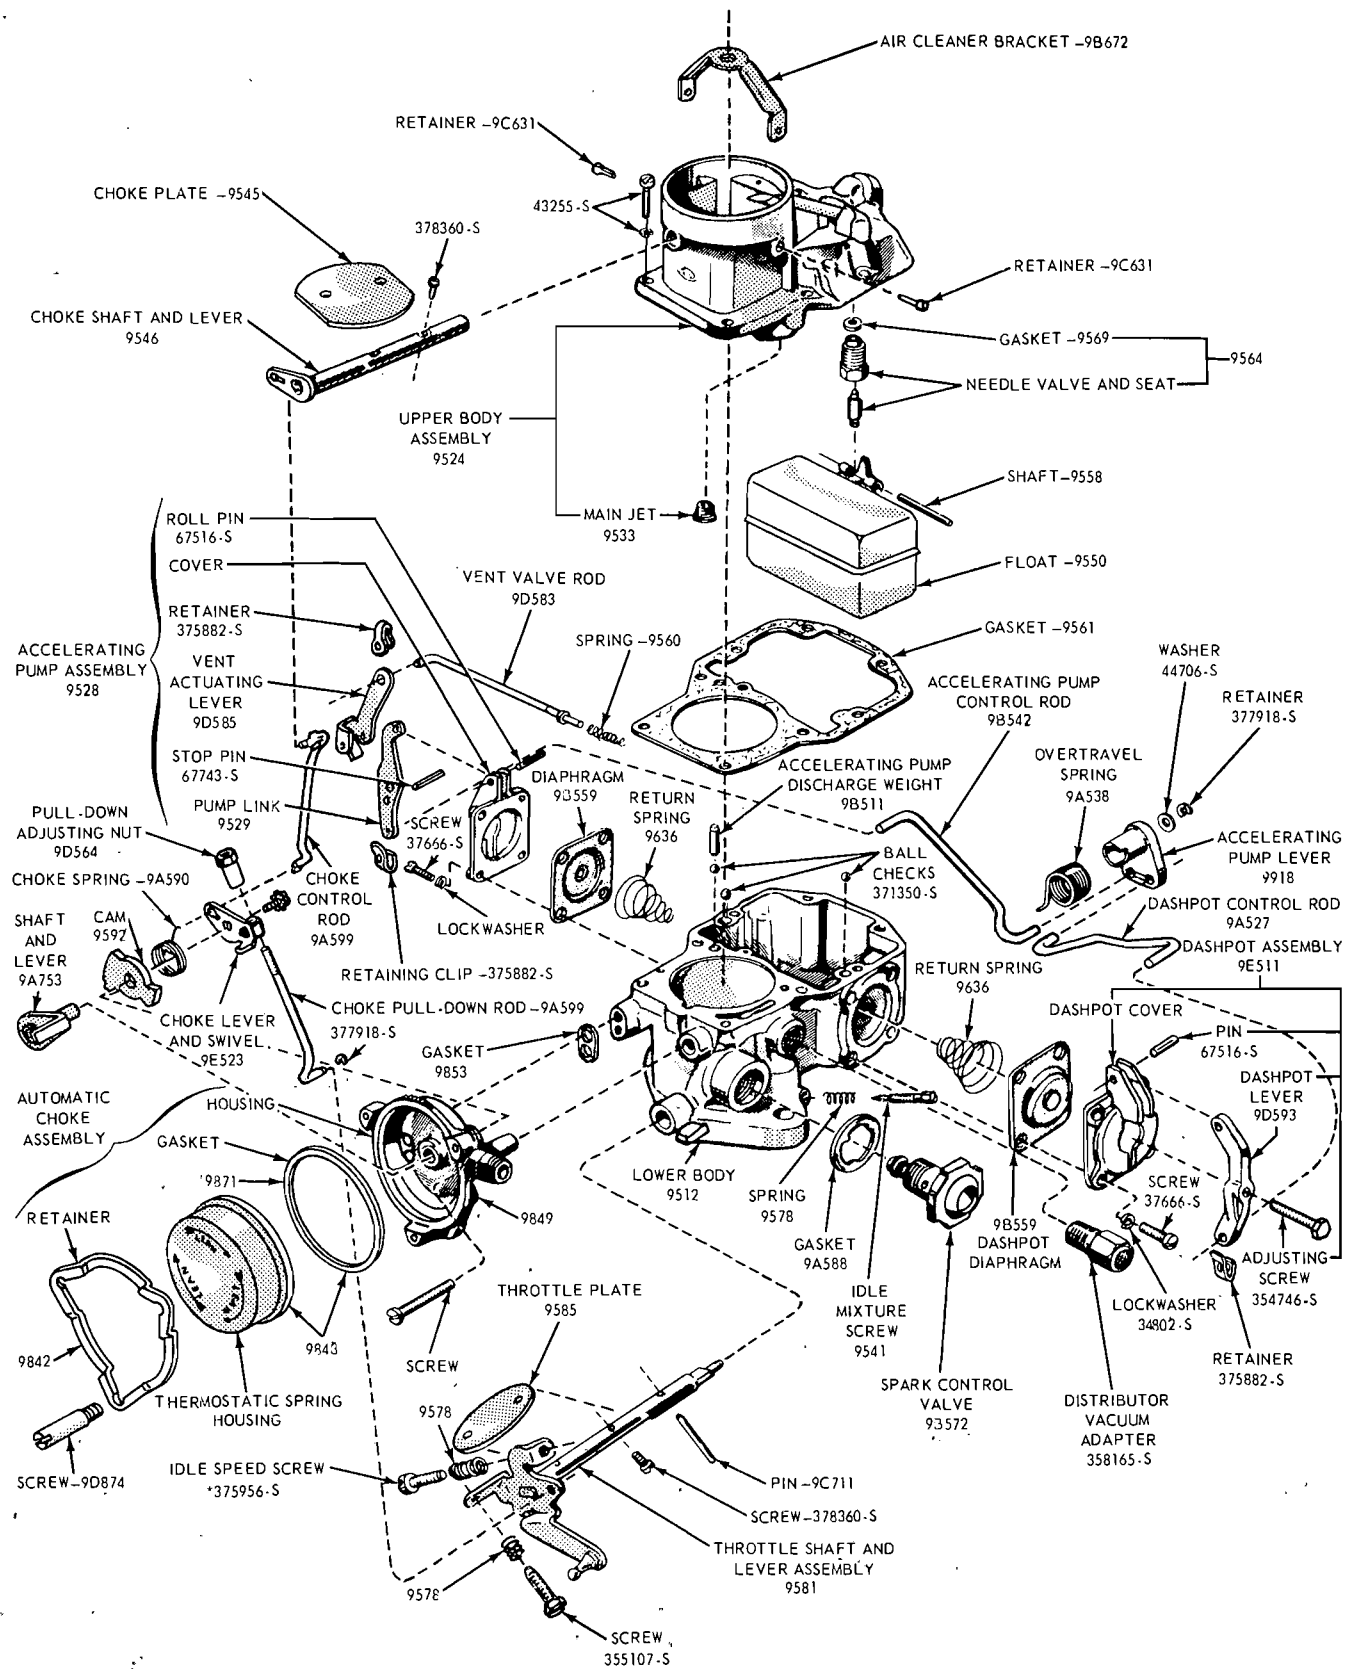

FIG. 12—Autolite Model 1100 1-V Carburetor Assembly
1. Remove the choke pull-down rod to throttle lever retainer (Fig. 12). Remove the rod from the lever.
1. Depress the tang on the fuel bowl vent rod to accelerating pump actuating lever retainer (Fig. 12), and disconnect the vent rod from the lever. Remove the fuel bowl vent rod to accelerating pump actuating lever retainer (Fig. 12).
2. Remove the upper to lower body retaining screws and the carburetor identification tag. Separate the upper body assembly, gasket and lower body assembly (Fig. 12). Discard the gasket.
1. Remove the float retaining pin and the float assembly (Fig. 12).
1. Depress the tab on the accelerating pump lever to control rod retaining clip and slide the rod out of the lever (Fig. 12). Remove the clip from the lever.
A disassembled view of the carburetor is shown in Fig. 12.
1. Insert the fuel vent valve return spring in the fuel vent passage in the upper body (Fig. 12). Insert the piston end of the fuel vent rod in the passage.
1. If the choke plate and the shaft were removed, insert the choke shaft assembly into the air horn with the lever pointing toward the accelerating pump side of the carburetor (Fig. 12).
1. If the throttle plate and shaft were removed, slide the throttle shaft into the lower body, with the lever on the throttle shaft located opposite the fuel bowl and the fast idle adjusting screw facing upward (Fig. 12).
4. If the carburetor is equipped with a dashpot (Fig. 12), proceed with the following steps:
5. Position the overtravel spring (Fig. 12) on the accelerating pump lever and hook the tang of the spring on the lever. Position the accelerating pump lever and spring on the throttle shaft and insert the accelerating pump actuating rod and dashpot actuating rod, if so equipped, into the two holes in the lever.
7. Position the accelerating pump actuating rod retaining clip over the hole in the accelerating lever, with the tab side of the clip toward the carburetor barrel (Fig. 12). Depress the tab and insert the shorter end of the rod through the lever and clip.
8. If the carburetor is equipped with a dashpot, position the dashpot actuating rod retaining clip over the hole in the dashpot lever, with the tab side of the clip facing toward the carburetor barrel (Fig. 12). Depress the tab and insert the shorter end of the rod through the lever and clip, then release the tab when the rod is inserted. Perform an Anti-Stall Dashpot Adjustment (Part 10-1, Section 2); after the carburetor is assembled.
9. Position the new spark valve gasket over the spark valve and screw the valve into the lower body (Fig. 12). Tighten the valve securely. **A loose valve will cause poor engine operation.**
10. Install the idle mixture adjusting screw and spring in the lower body (Fig. 12). Perform the Preliminary Idle Mixture Setting (Part 10-1, Section 2) after the carburetor is assembled.
1. Place the ball check and the accelerating pump weight into the lower body accelerating pump outlet passage (Fig. 12). Insert a ball check in the accelerating pump inlet passage.
2. If the carburetor is equipped with a dashpot, insert a ball check in the dashpot inlet passage (Fig. 12).
1. When facing the cam side of the choke housing (Figs. 12 and 13), position the choke shaft spring over the bushing hub with the hook of the spring on the fast idle cam finger (spring windup will rotate the cam counterclockwise).